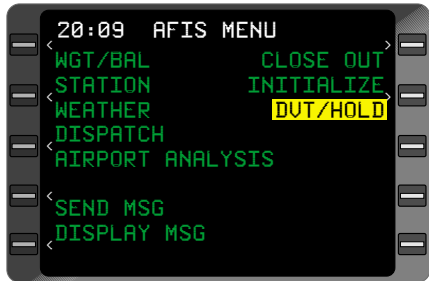

Figure 8-23
2. Line Select Key - DEPRESS to position the cursor over **DVT/HOLD**. See Figure 8-23.